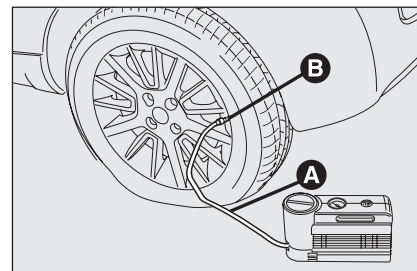

fig. 9
- ☐ **Apply the handbrake.** Remove the tyre valve cap, extract the flexible filler tube **A**-fig. 9 and fasten the ring **B** on- to the tyre valve;